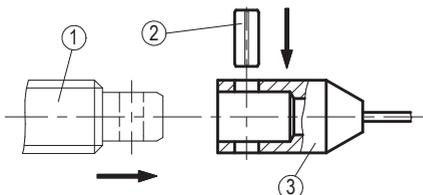

Fig. 4: Mounting of the wire extension
For mounting the wire extension: Push the connecting piece (3) onto the screw connector (1). The press-fit clamping sleeve (2) will neatly join both elements (see fig. 4).